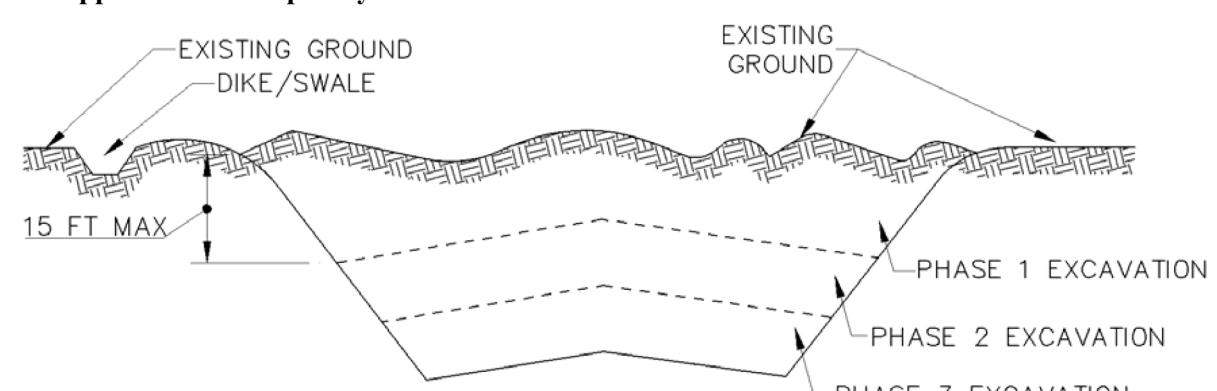

Figure B-1: Incremental Stabilization - Cut
2. Construction sequence example (Refer to Figure B-1):